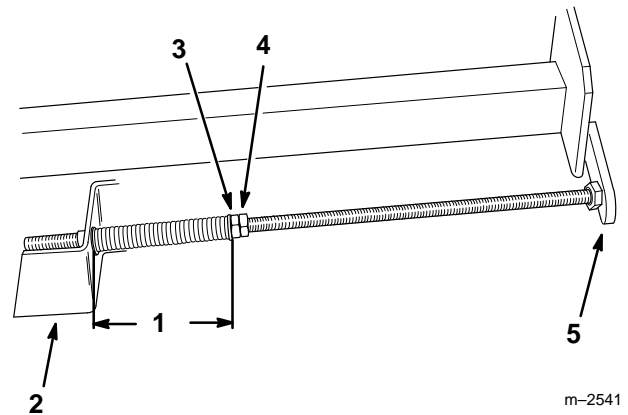

Figure 6
5. Insert the spring end of the adjusting shaft into the hole in the deck mounting bracket. Note that the small end of the bushing fits into the hole in the deck bracket. Insert the locknut end of the adjusting shaft into the carrier frame mounting tab (Fig. 6).
6. To tension the belt, tighten the front jam nut on each adjusting shaft until the springs are compressed to 5" (12.7 cm). Measure the spring compression between the spacer and the bushing (Fig. 6). Readjust if needed.
7. Tighten the rear jam nuts (Fig. 6).